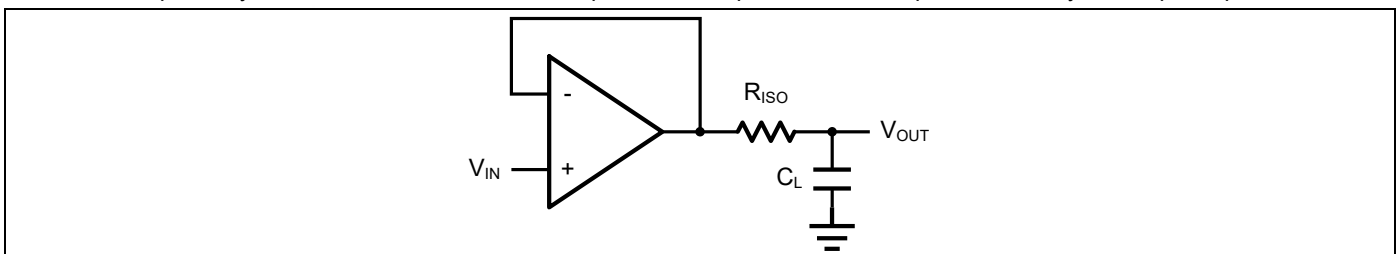
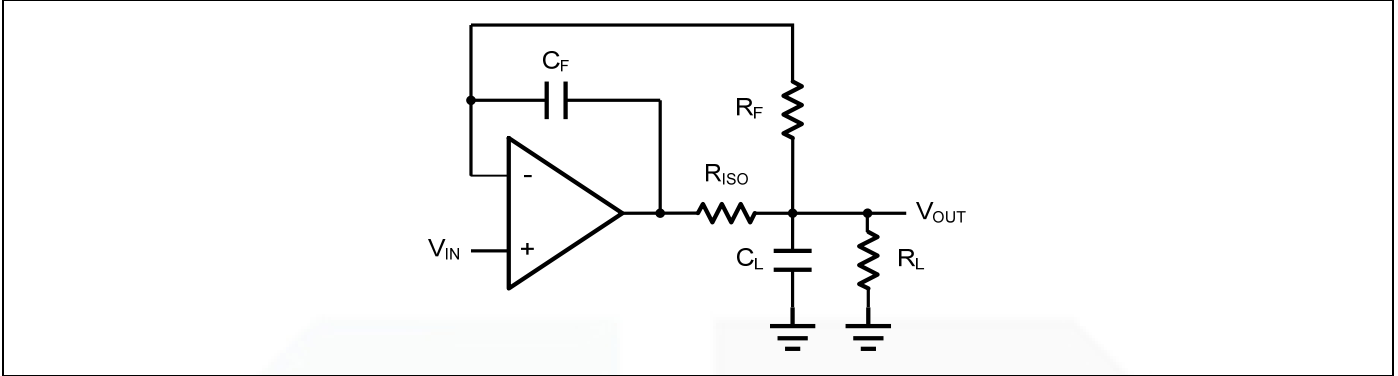

Figure 2. Indirectly Driving a Capacitive Load Using Isolation Resistor
Figure 3. Indirectly Driving a Capacitive Load with DC Accuracy
The GS855X family is optimized for bandwidth and speed, not for driving capacitive loads. Output capacitance will create a pole in the amplifier's feedback path, leading to excessive peaking and potential oscillation. If dealing with load capacitance is a requirement of the application, the two strategies to consider are (1) using a small resistor in series with the amplifier's output and the load capacitance and (2) reducing the bandwidth of the amplifier's feedback loop by increasing the overall noise gain. Figure 2. shows a unity gain follower using the series resistor strategy. The resistor isolates the output from the capacitance and, more importantly, creates a zero in the feedback path that compensates for the pole created by the output capacitance.
The circuit in Figure 3 is an improvement to the one in Figure 2. R_F provides the DC accuracy by feed-forward the V_{IN} to R_L . C_F